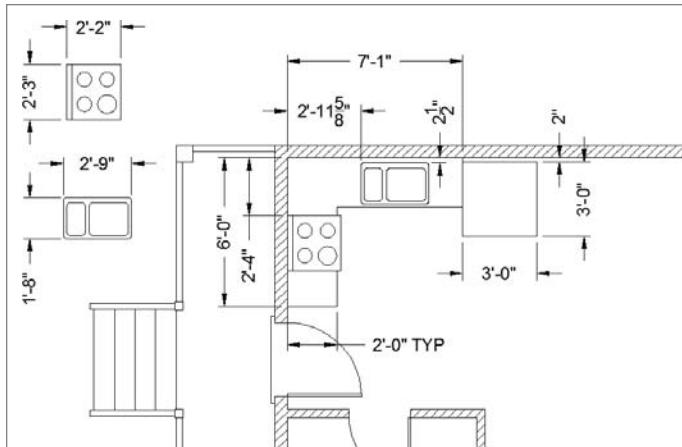

FIGURE 5.40 The general layout of the kitchen
The kitchen for the cabin will have a stove, a refrigerator, and a counter with a sink (see Figure 5.40). The refrigerator is set 2" (51 mm) from the back wall. Approaching this drawing task, your goal is to think about the easiest and fastest way to complete
Figure 5.40 gives you the basic dimensions, and you'll get more detailed information about the sink and stove as you progress through the exercise.
8. Hold the crosshair cursor upward, and enter $4' \downarrow$ (**1220,↓**). At this point, you have drawn two line segments defining the counter on the back wall of the cabin. You can see the dimensions in Figure 5.40, shown earlier.